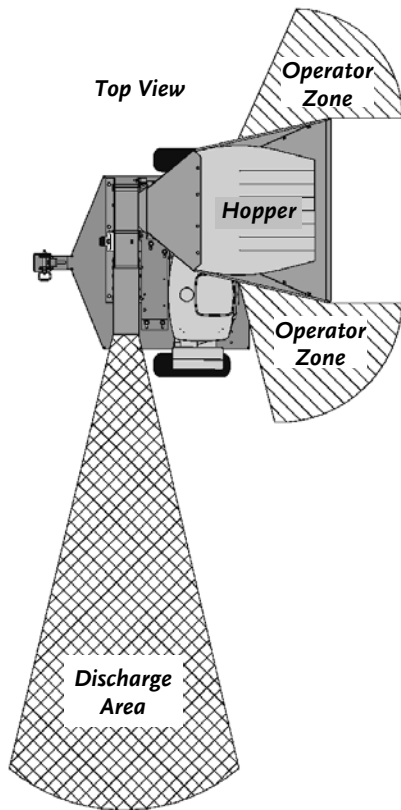

Figure 15
- Only operate the DR RAPID-FEED CHIPPER from the Operator Zones shown in **Figure 15**.